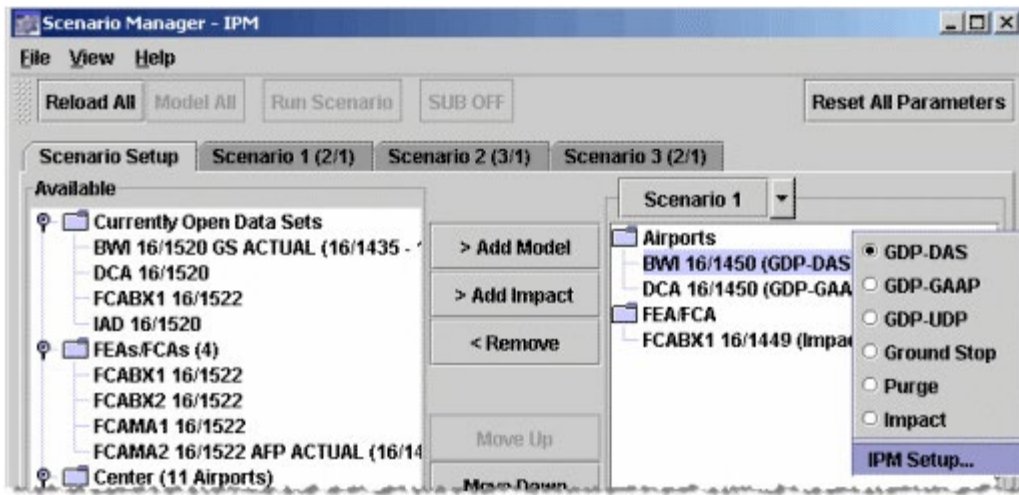

Figure 10-2: Right-Click Menu Option to Open IPM Setup
- To change parameters, right-click the element in the Scenario box, and select **IPM Setup** (see Figure 10-2) or click the appropriate Scenario tab, and click the *Element ID* action button to open the IPM Setup component.